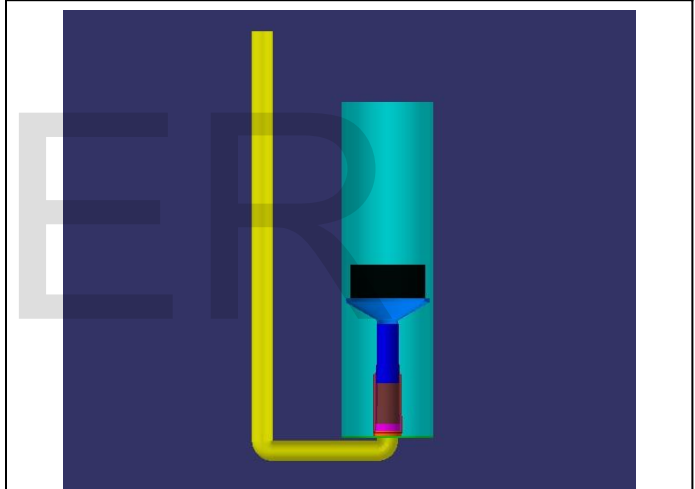

Fig. 5
Step 2: We start applying Force at Smaller Dia Tube (SDT). This will force fluid into WPFT. So WPFT will start to Expand. And as WPFT can expand laterally only up to the size of its Dia, and its longitudinal expansion can only happen in the direction in which Antenna Support can expand. So as it starts expanding it starts expanding Antenna Support system as well. And so it starts pushing loads up slowly. Figure 5 Just illustrates one intermediate position where WPFT expansion helped move load through some distance up.